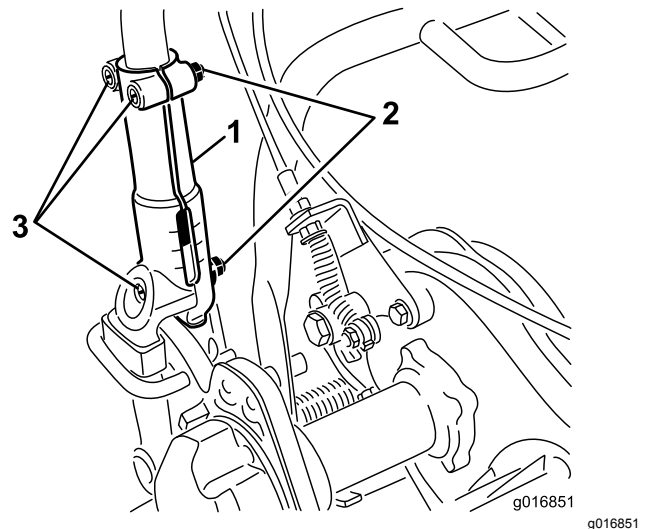

Figure 29
1. Loosen the 3 carriage bolts and nuts securing each side of the handle in the handle clamps (Figure 29).